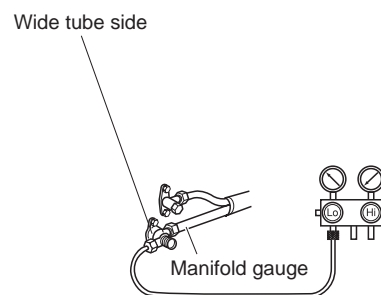

Fig. 24
- (2) Connect the manifold gauge to the charging port at the valve on the wide tube side of the tube. Purge the air from the charging hose. (Refer to Fig. 24.)
(Refer to Fig. 24.)